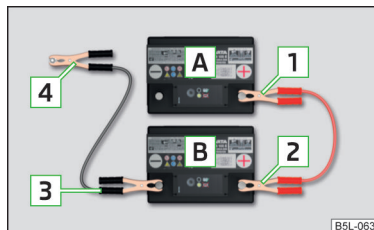

Fig. 201
- Attach clamp [1] to the positive terminal of the discharged battery [A] » Fig. 201.